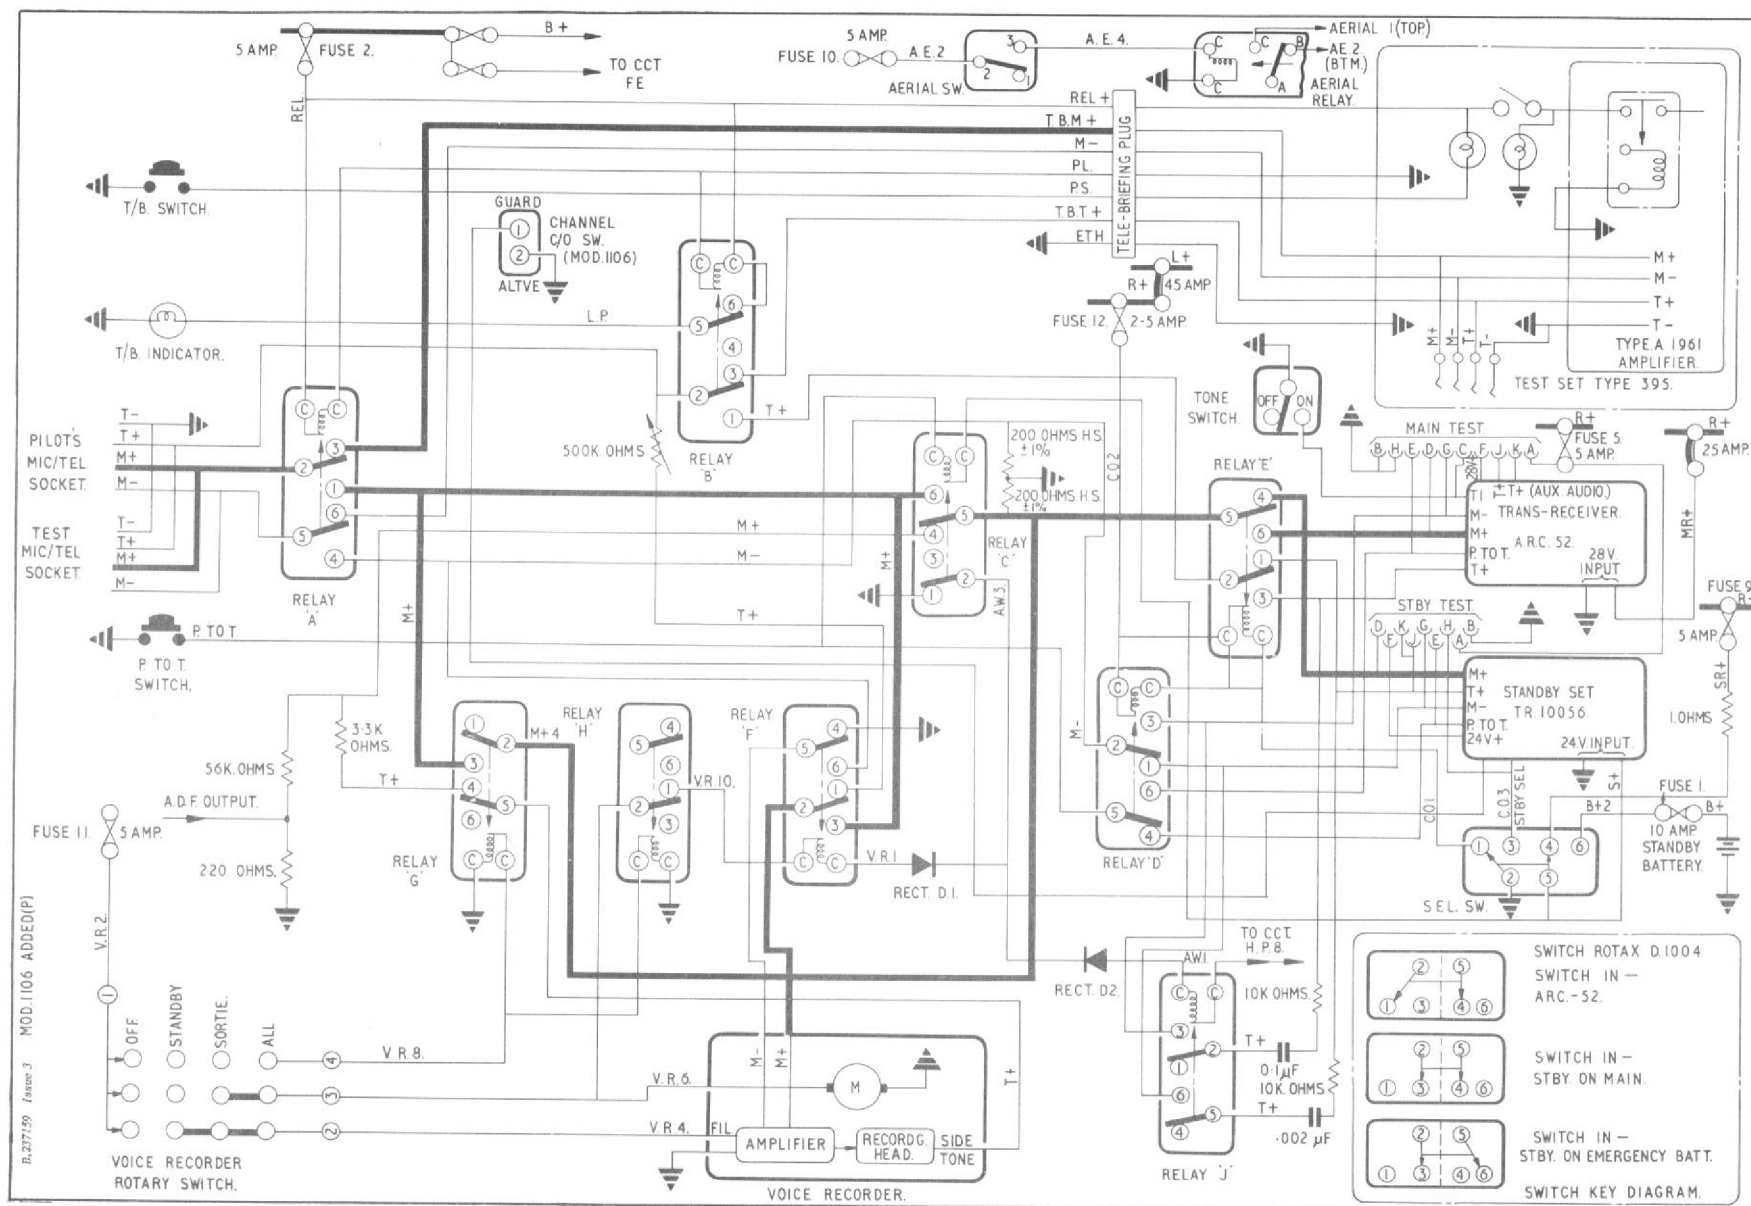

Fig. 1 Radio supplies - U.H.F., telebriefing and voice recorder (theoretical)
4. The transmitter-receiver A.R.C.52 is supplied via the ARC.52 circuit-breaker, located below the supply panel in the radio bay. With the Normal/Standby set selector switch at A.R.C.52, this set becomes operative when the function switch of the Type 1607/2 control unit is placed to either of its ON positions. Relays D and E (*fig.1*) which are supplied from fuse No.12, are energized, and connect the set, in the "receive" condition, to the pilot's mic.-tel. socket. If the function switch is set to include the radio compass (A.D.F.) facility the A.D.F. output will be fed via contacts on relay C to the transmitter-receiver, and from thence to the pilot's telephone. The set may be switched to the "transmit" condition by operation of the press-to-transmit switch, thereby energizing relay C. Relay C's operating